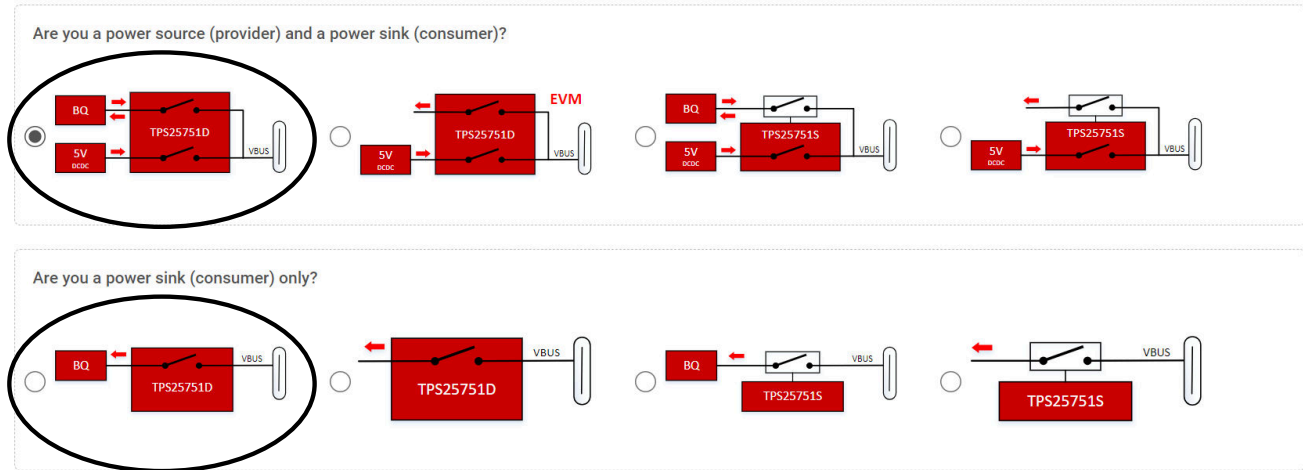

Figure 4-5. TPS25751D + BQ Configurations
1. Open the Application Customization Tool and select one of the TPS25751D + BQ configurations shown in Figure 4-5.